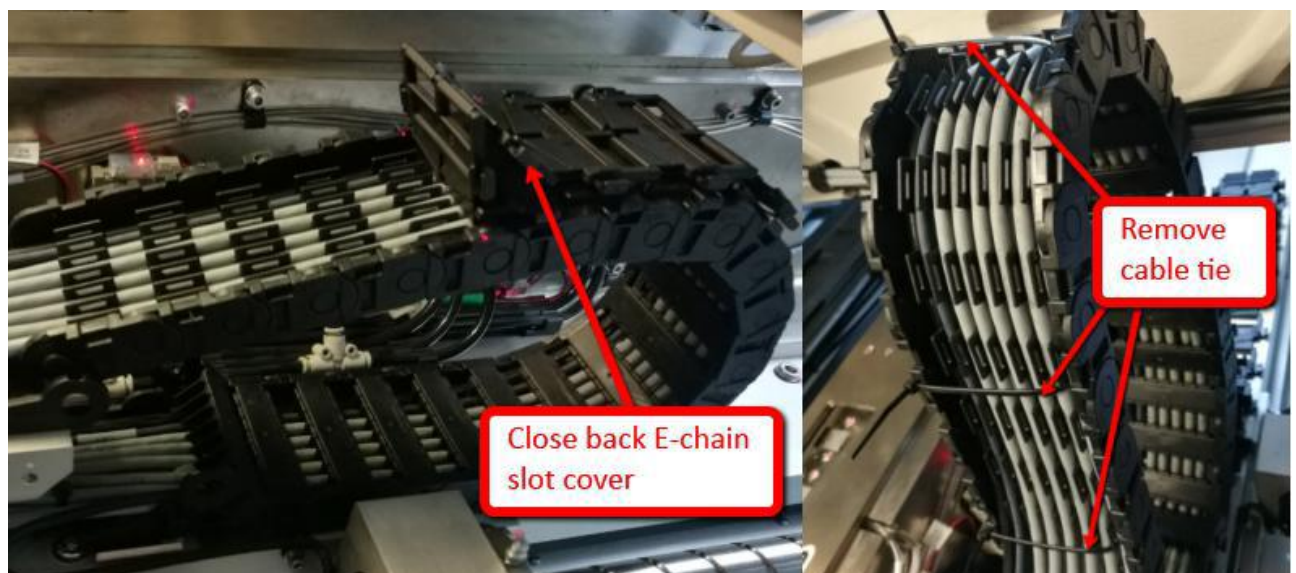

Figure 24
- Gentle route back X-Axis encoder cable and remove necessary cable tie. Close back E-chain slot cover to each partition as shown in Figure 24.